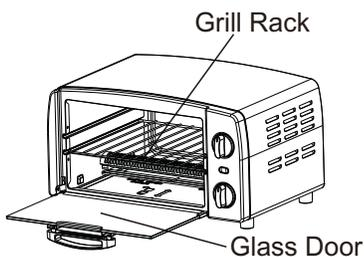

fig.8.
2. Open the Oven Door and place sliced bread on the Grill Rack Place one slice of bread in the center of Grill Rack or 4 slices side by side. See fig.8.